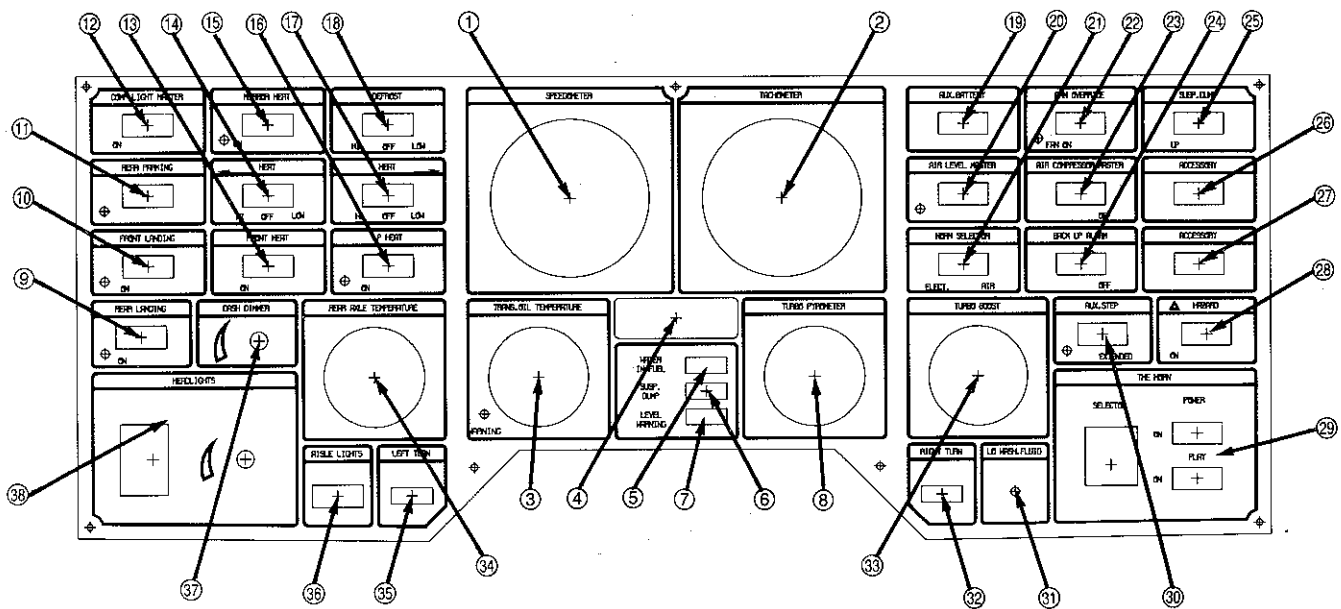

Figure 2-4. Lower Dash Panel
Lower Dash Panel (See Fig. 2-4)
②⑧ **HAZARD** Switch — This switch turns on the emergency flashers. When switch is used both turn signals will flash in unison.
②⑨ **THE HORN**, Figure 2-4 — This corner of the dash has 3 different switches for use with the musical horn.